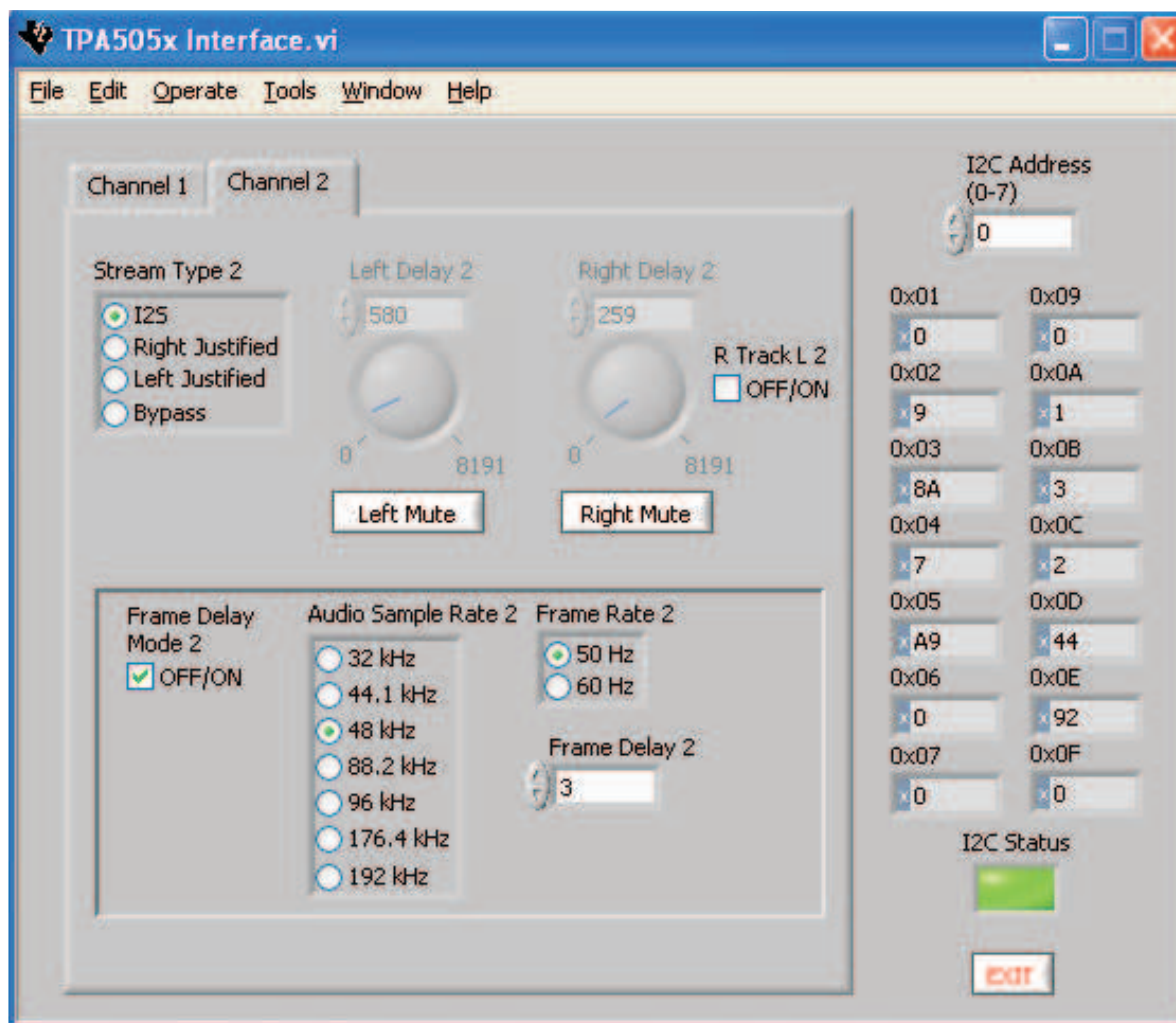

Figure 2. TPA5051 in I²S Mode With Frame Delay
- The delay also can be controlled with the *Frame Delay* option. Simply click on the *Frame Delay Mode 1 ON/OFF* box, and the frame delay options become available. Frame delay mode affects both left and right channels simultaneously (see Figure 2).
- The channel selection tab is designed for use with the TPA5051, which has two independent digital audio inputs. Selecting the *Channel 1* tab allows control of the registers for digital audio input 1 (DATA1 of the device). Selecting the *Channel 2* tab allows control of the registers for digital audio input 2 (DATA2 of the device). See Figure 2